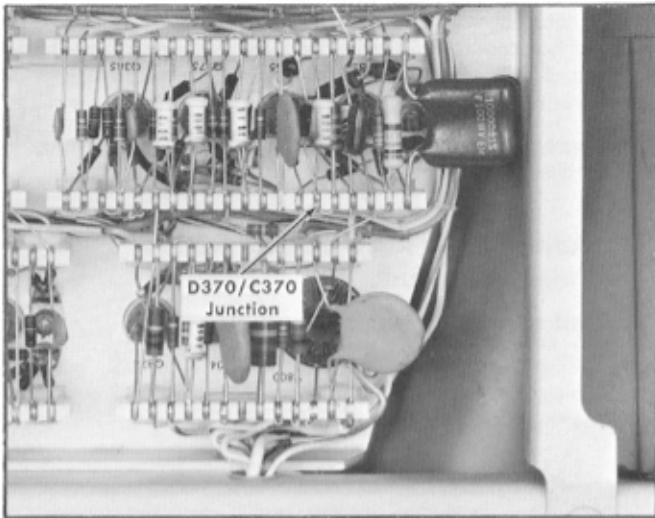

Fig. 6-23. Location of D370/C370 junction.
- e. Connect the 10 $\times$  probe from the vertical input connector to the junction of D370 and C370 (see Fig. 6-23).